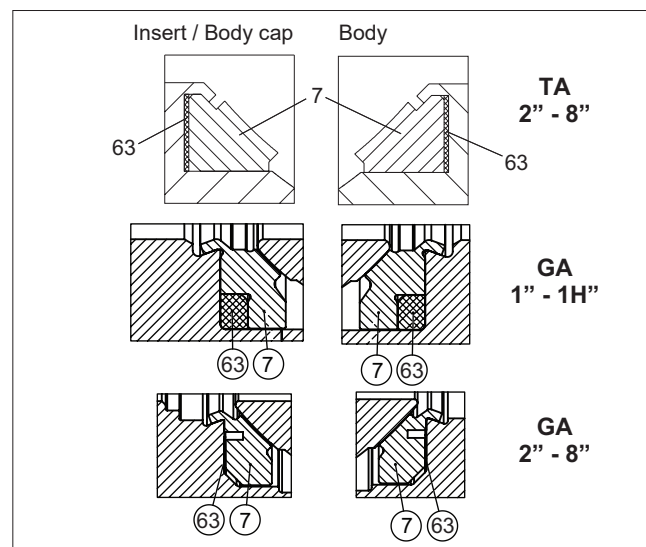

Fig. 22 K seats
- Place the back seal (63) into the body counterbore. Then place the seat (7) into the body counterbore, see Figure 22.
- Place the back seal (63) in the ball seat (7); see Figure 22. Place the seat in the body cap (2). Lock the seat with a special tool. See Section 4.9.3 for instructions.